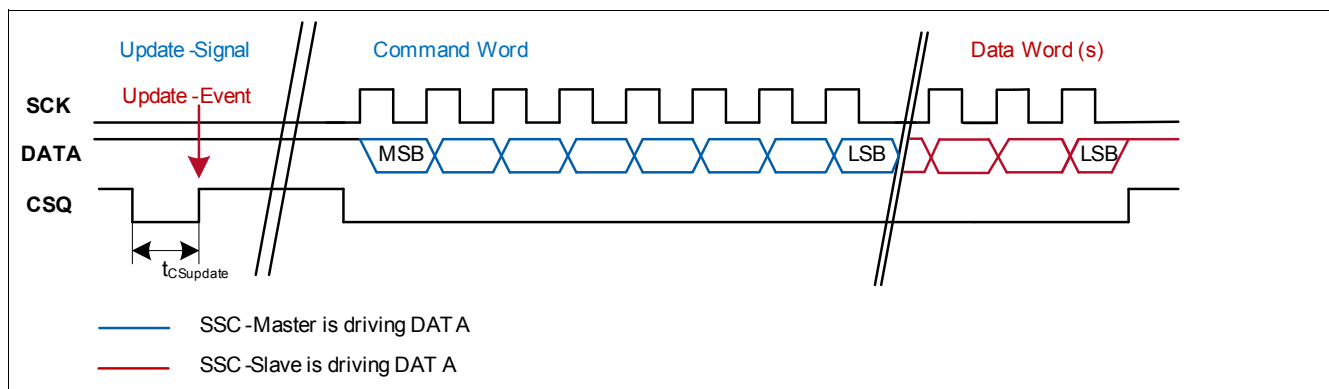

Figure 4-11 Update of update registers
- At a rising edge of CSQ without a preceding data transfer (no SCK pulse, see Figure 4-11), the content of all registers which have an update buffer is saved into the buffer. This procedure serves to take a snapshot of all relevant sensor parameters at a given time. The content of the update buffer can then be read by sending a read command for the desired register and setting the UPD bit of the Command Word to "1".